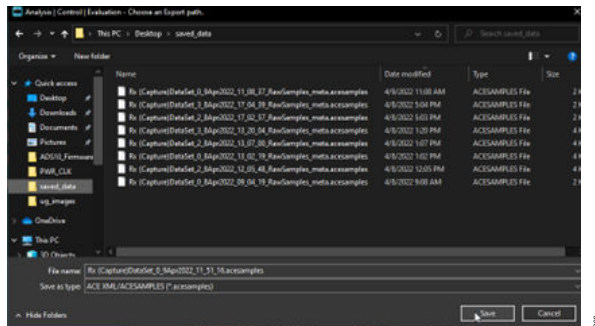

Figure 67. Selecting FFT in Analysis Window
- ▶ If captured from the **ACE Software**, **Export** the data and store it in the following location: **C:\Users\adiguest\Desktop\saved\_data**. Ensure that you note the file name under which the data is saved (see Figure 67).